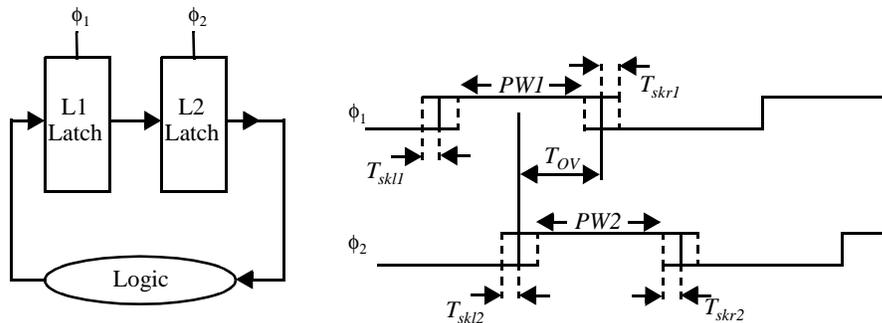

Figure 0.9 Timing constraints
6. For the L1-L2 latch based system from Figure 0.9, with two overlapping clocks derive all the necessary constraints for proper operation of the logic. The latches have setup times  $T_{SU1}$  and  $T_{SU2}$ , data-to-output delays  $T_{D-Q1}$  and  $T_{D-Q2}$ , clock-to-output delays  $T_{CLK-Q1}$  and  $T_{CLK-Q2}$ , and hold times  $T_{H1}$  and  $T_{H2}$ , respectively. Relevant clock parameters are also illustrated in Figure 0.9. The constraints should relate the logic delays, clock period, overlap time  $T_{OV}$ , pulse widths  $PW1$  and  $PW2$  to latch parameters and skews.